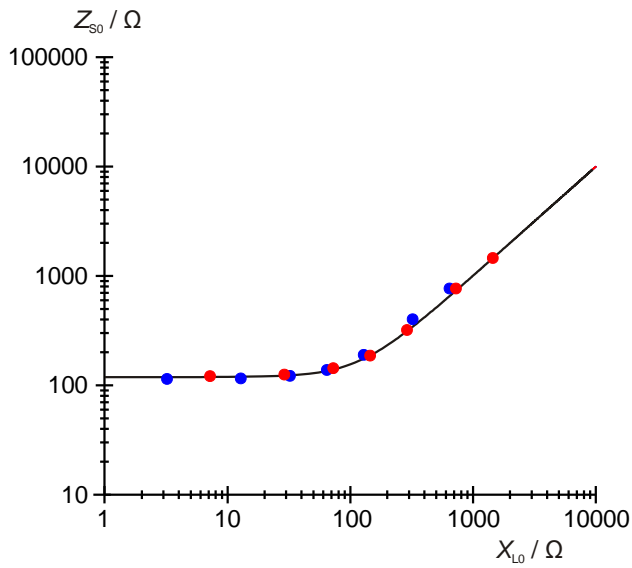

Fig. 4: Total impedance of series circuit for  $N=800$  (●) and  $N=1200$  (●) turns.
- Plot the total impedance values  $Z_{0S}$  and  $Z_{0P}$  and phase shifts  $\varphi$  for the series and parallel circuits as a function of  $X_{L0}$  (Fig. 4 – 7).
- Calculate the theoretical total impedance values  $Z_{0S}$  and  $Z_{0P}$  and phase shifts  $\varphi$  according to equation (5) for the series circuit and equation (6) for the parallel circuit.
Draw them as continuous lines into Figs. 4 – 7.